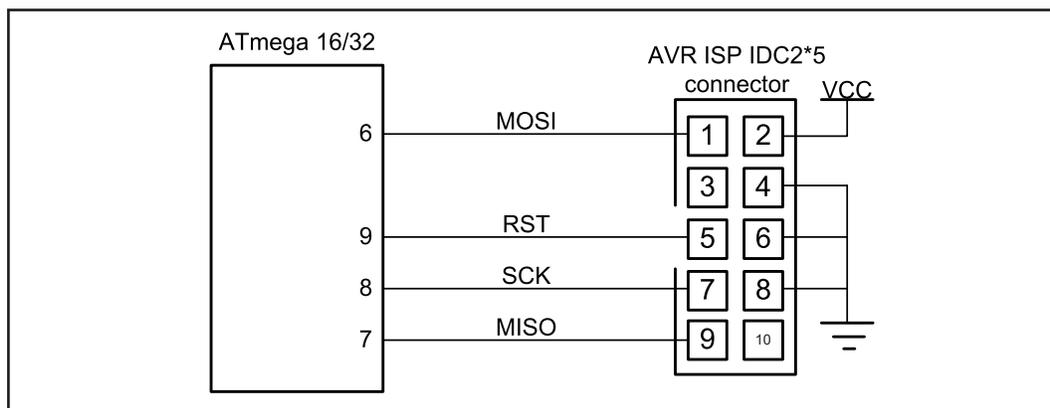

Figure 8-11. ISP 10-pin Connections (See www.Atmel.com for 6-pin version)
2. An in-circuit serial programmer (ISP) allows the developer to program and debug their microcontroller while it is in the system. This is done by a few wires with a system setup to accept this configuration. In-circuit serial programming is excellent for designs that change or require periodic updating. AVR has two methods of ISP. They are SPI and JTAG. Most of the ATmega family supports both methods. The SPI uses 3 pins, one for send, one for receive, and one for clock. These pins can be used as I/O after the device is programmed. The designer must make sure that these pins do not conflict with the programmer. Notice that SPI stands for "serial peripheral interface" and is a protocol. But ISP stands for "in-circuit serial programming" and is a method of code loading. AVRISP and many other devices support ISP. To connect AVRISP to your device you also need to connect VCC, GND, and RESET pins. You must bring the pins to a header on the board so that the programmer can connect to it. Figure 8-11 shows the pin connections.